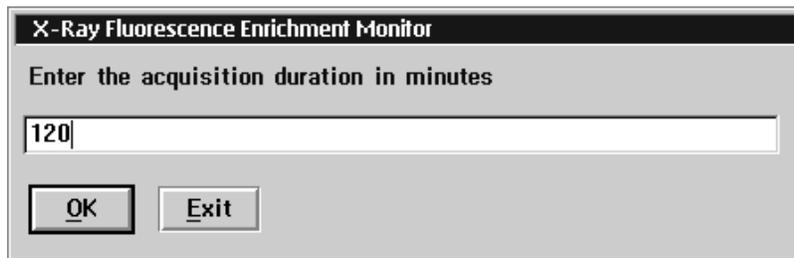

Figure 27. Message box that allows the user to enter a data acquisition time. Here the box contains a default value of 120 minutes.
6. A dialog box will then appear for the user to enter the acquisition time in minutes. Alternatively, the default value can be accepted as given. Select “OK” to continue. Figure 27 shows this dialog box with a value of 120 minutes. The value seen may be different from this. A value of 30 minutes may be sufficient for the 8-in. pipe. Minimize the time the detector is on the 8-in. process pipe because this is the hotter pipe and will cause more outgassing in the detector and detector resolution degradation.
In the event that the peak locations are incorrect or the areas are negative, the XRF software will present message boxes indicating these problems. Figures 41–44 indicate the most common error messages. Such a message could indicate that the measurement time was not long enough to get enough peak statistics, that the energy calibration is incorrect, or that there is no UF₆ gas in the header pipe. (Check with plant personnel to ensure there is gas in the header pipe.) Check the energy calibration again using the steps outlined in Section 2, above, and adjust if necessary. If the energy calibration is good, and gas is present, increase the counting time from within the XRF software, using the dialog box as shown in Figure 27.